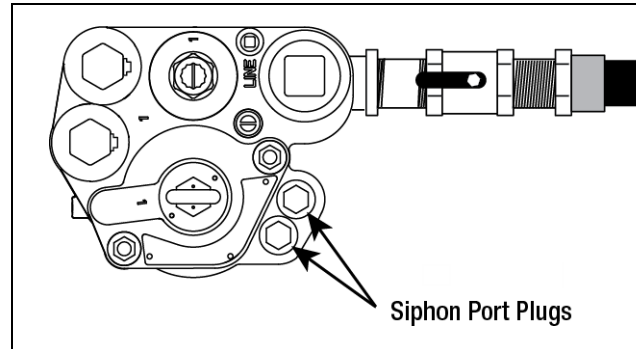

Figure 13. Locating TRJ Siphon Port Plugs
2. Remove one of the siphon port plugs from the STP (see Figure 13).
5. Remove the 3/8" NPT siphon port plug from the STP (see Figure 13).